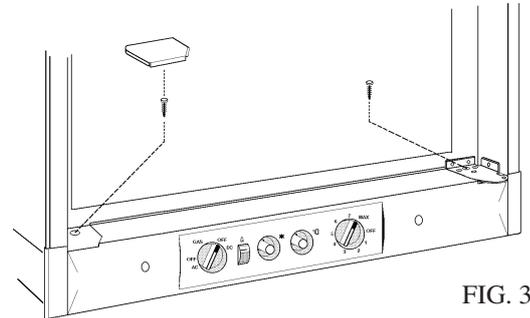

FIG. 3
- a) Secure the refrigerator to the floor with two screws: One screw through the hinge and into the floor, and on the opposite side one screw through the front base, see fig. 3.